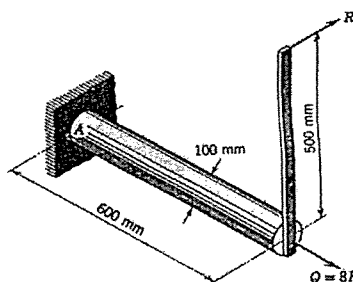

Figure 4
- (20 Points) A solid circular shaft is loaded and supported as shown in Figure 4. If the tensile and shearing stresses at point A on the surface of the shaft are not to exceed $140MPa$ and $85MPa$, respectively, determine the maximum value for the load R .